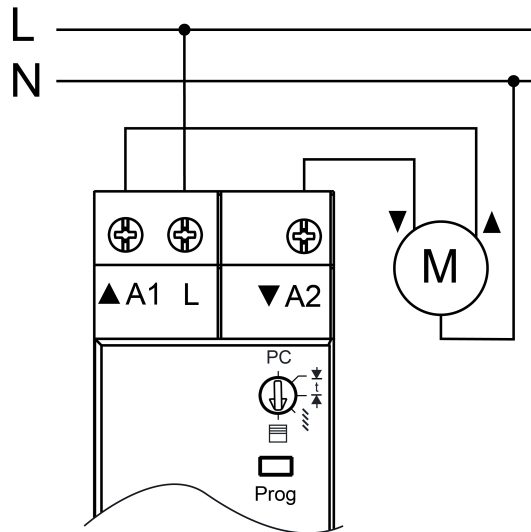

Figure 3: Connection example
- Connect load as shown in the connection example (Figure 3).